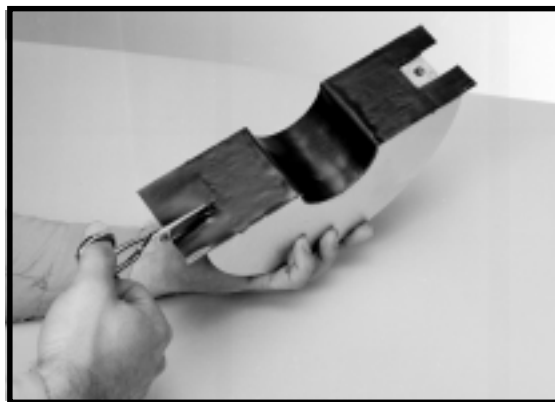

FIGURE 13 - TRIMMING LOCK-TAPE STRIP FROM AROUND BOLT HOLE
6.11 Square cut the tape away from the bolt hole areas just beyond the metal inset. (Figure 13)